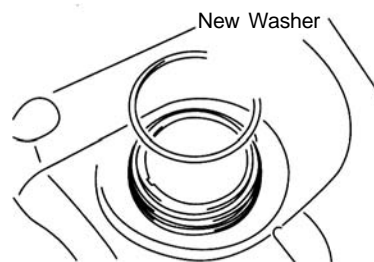

Figure 104
6. Install fuel pump assembly. See (Figure 104). Replace ring seal .